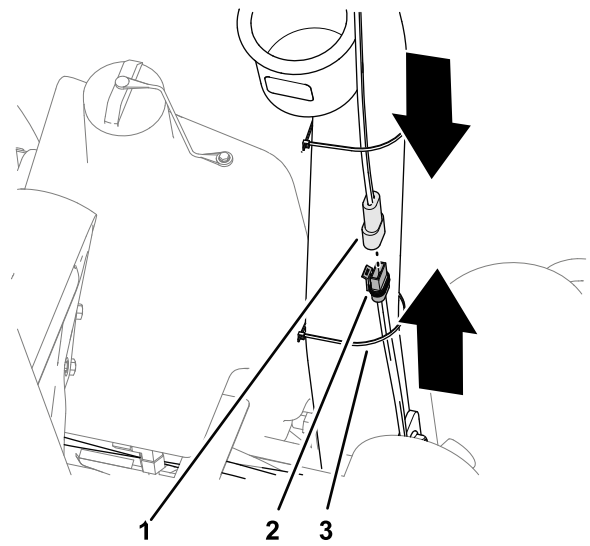

Figure 19
- Secure the power harness to the roll-bar tube with a cable tie (Figure 19).
- Plug the 2-socket connector of the power harness into the 2-pin connector for the sunshade wire harness (Figure 19).